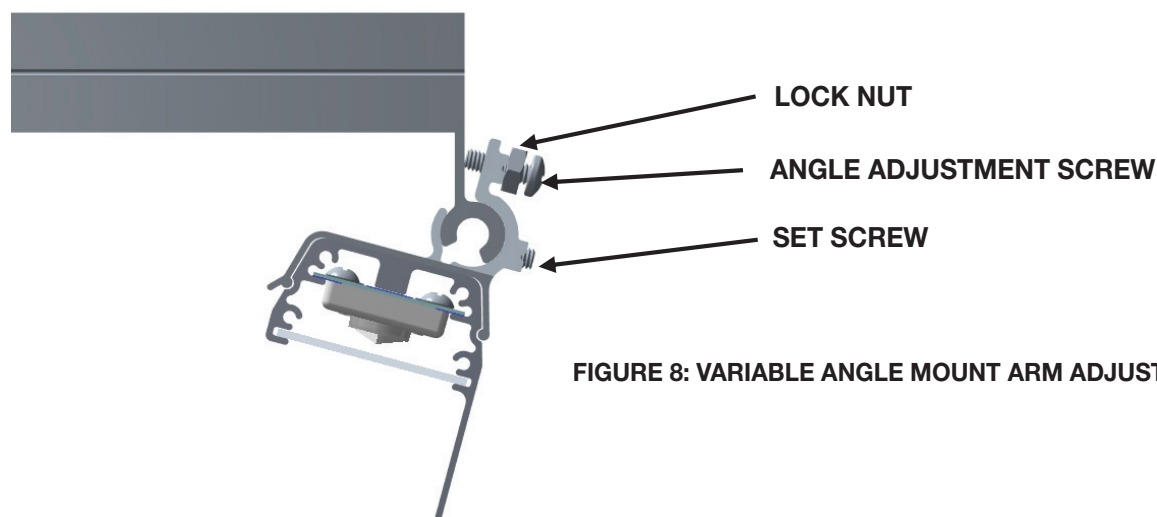

FIGURE 8: VARIABLE ANGLE MOUNT ARM ADJUSTMENT
1. After connecting the fixture assembly to the mount arms, some adjustment is required when using the variable angle mount arm. See Figure 8.
4. Use the adjusting screw to help set the light angle. When angle is found use the lock nut on the adjusting screw to hold it in place while tightening the set screw. Refer to Figure 8.